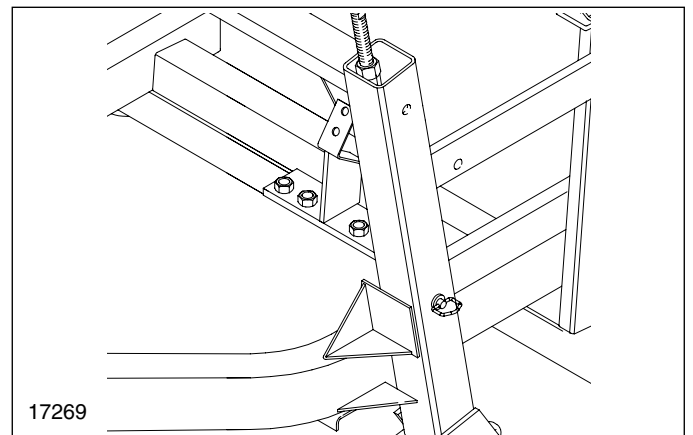

Figure 15
4. Apply hydraulic pressure to the raising and lowering system. Raising the drill may be required to free up the transport lock pins in the vertical tubes for removal. Place pins into transport position as shown in Figure 15, Transport Lock Pin in Transport Position.